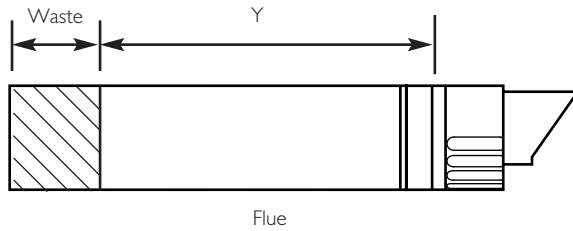

Fig. 36
5. Mark dimension 'Y' on the flue as shown (Fig. 36). Carefully cut the waste material from the flue, ensuring that the ducts are square and free from burrs.